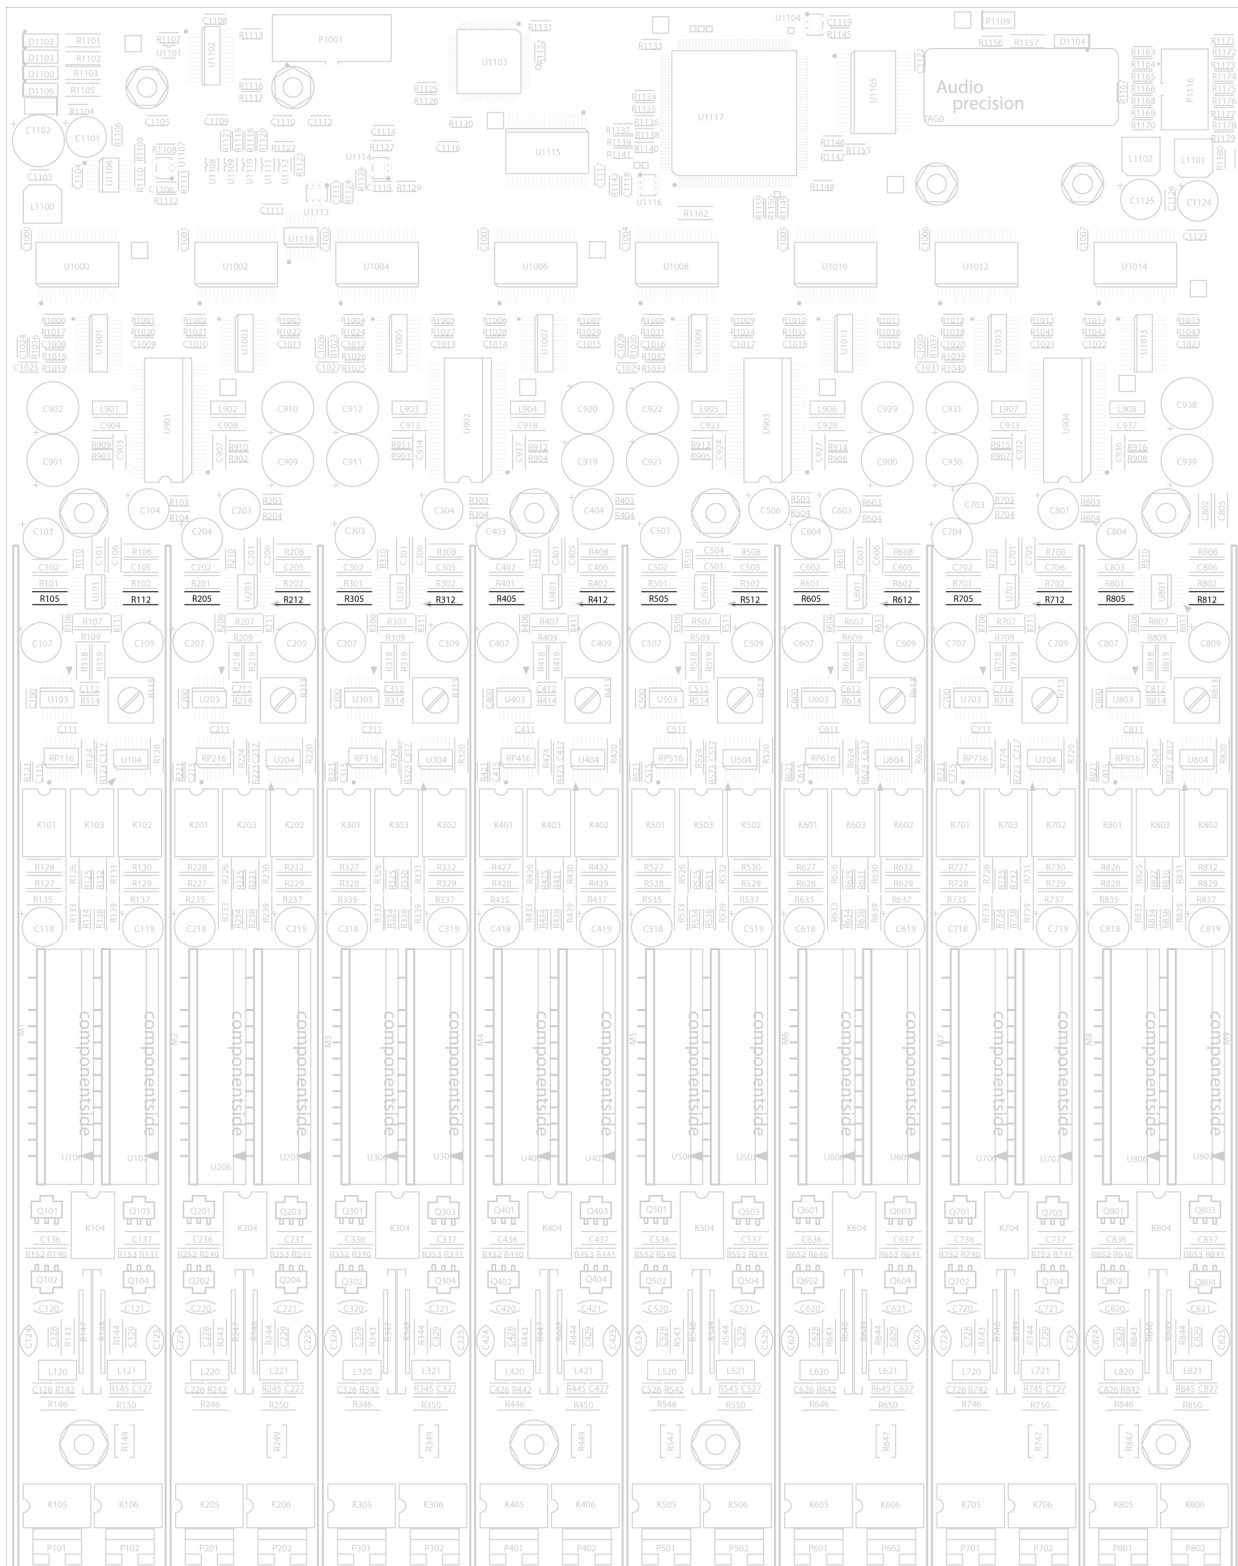

Figure 1 BCAS module with resistors highlighted.
2. Change resistors R105 and R112 in input channel 1 of the BCAS module from 59.0 Ohms to 56.2 Ohms using the AP part specified above or its equivalent. Do the same for input channels 2 – 7 (R205/R212,...). See the resistors highlighted in figure 1.